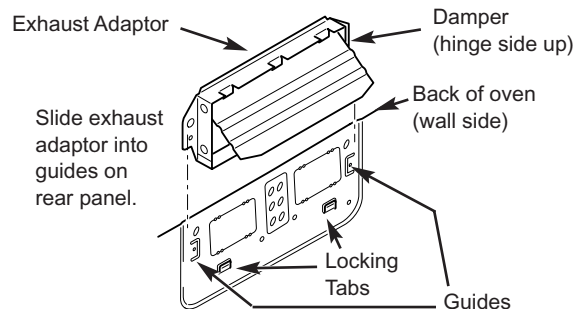

Figure 29
- Carefully guide the exhaust adaptor, now attached to the Back of oven, into the house duct, before using the screws to attach the plate to the wall. This will assure proper alignment for installation. See **Figure 29**.
- Return to step 5, item 3 (page 15) to continue. After completing the installation of the Back of oven, again check the rear damper for free movement to assure it will operate properly.